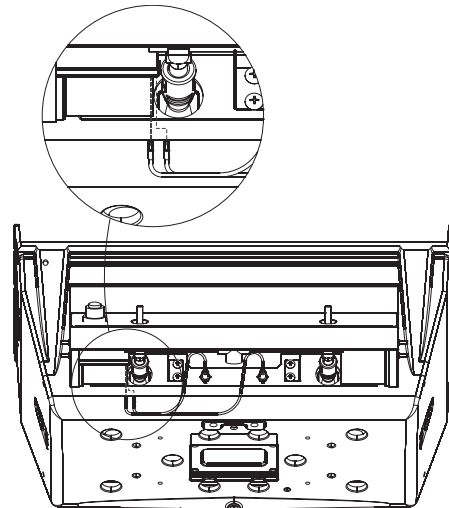

Figure 9
- Attach ignitor wires to terminals on the ignitor. See Figure 9.